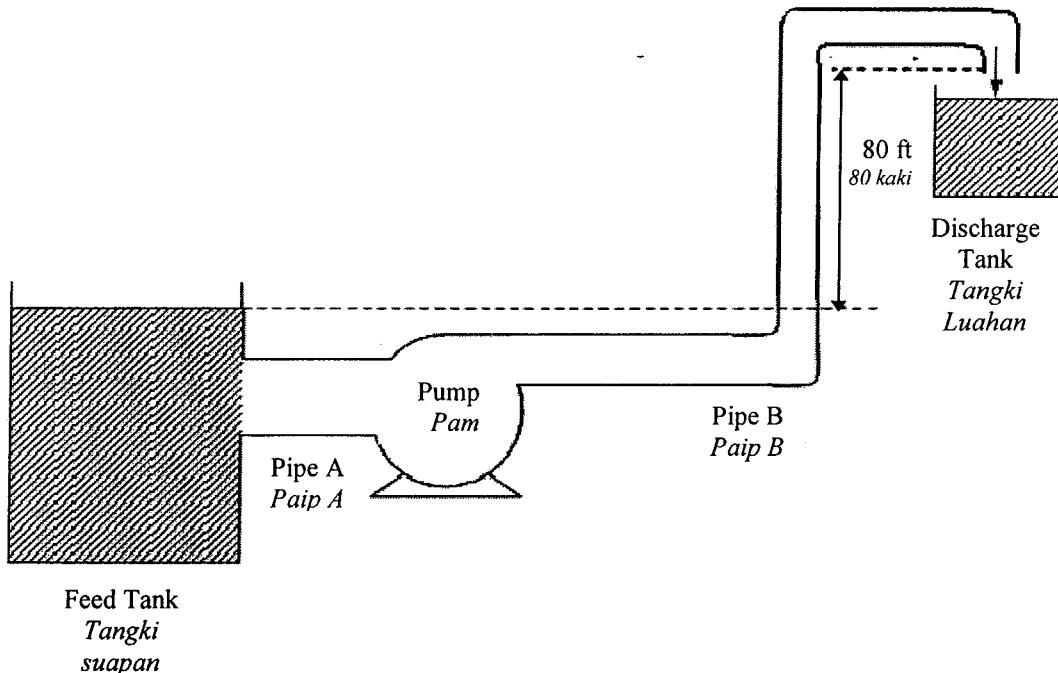

Figure Q. 7.
7. Figure Q.7 shows a pump pumping a fluid at a rate of  $0.2 \text{ ft}^3/\text{s}$  from an open tank having a large cross-sectional area. The discharge flow goes to an open overhead tank as shown in the figure. If the friction loss in the piping system are  $20 \text{ ft.lb/lb}_m$  and the efficiency of the pump is 70%, calculate